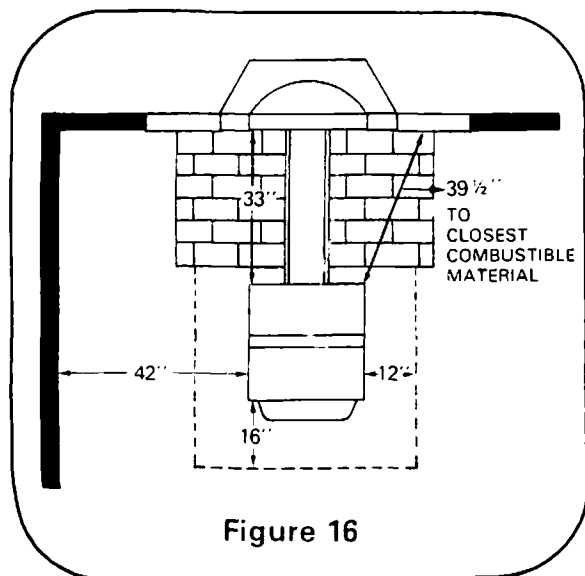

Figure 16
7. Position floor protector in front of fireplace hearth according to clearance to-combustible chart. (See Figure 16.)